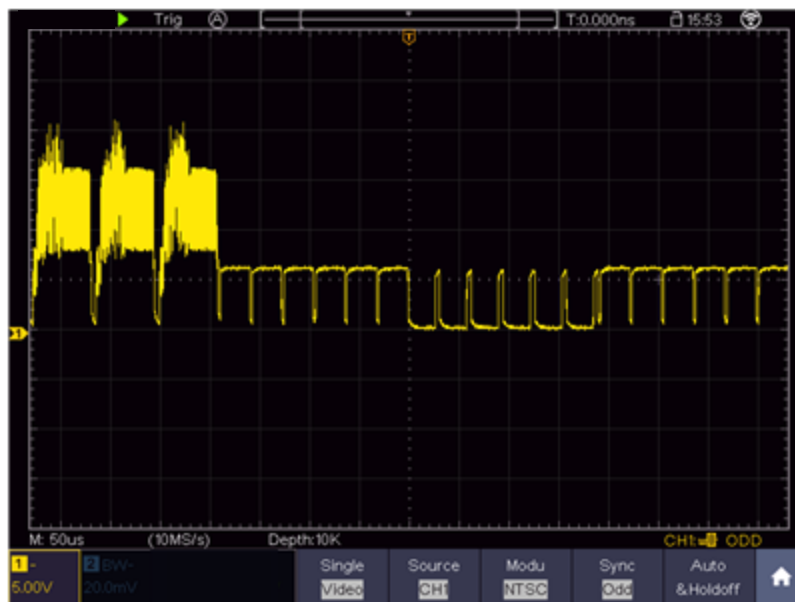

Figure 8-7 Waveform Captured from Video Field Trigger
- (1) Click  to call up the menu panel. Click the **Trig Menu** softkey on panel to display the Trigger menu.
- (2) Select the first menu item in the bottom menu. Select **Single** in the right menu.
- (3) In the left menu, select **Video** as the mode.
- (4) Select **Source** in the bottom menu. Select **CH1** in the right menu.
- (5) Select **Modu** in the bottom menu. Select **NTSC** in the right menu.
- (6) Select **Sync** in the bottom menu. Select **Field** in the right menu.
- (7) Adjust the vertical scale, vertical position and horizontal scale to obtain a proper waveform display (see *Figure 8-7*).